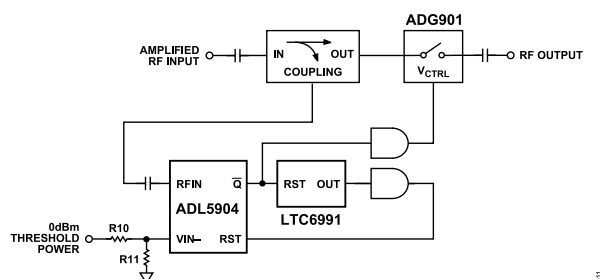

Figure 11. CN0555 Overpower Protection Circuit
The ADL5904 provides a resistor programmable detection threshold, which compares the voltage from an internal envelope detector with a user defined input voltage. When the voltage from the envelope detector exceeds the user defined threshold voltage at the V_{IN-} pin, an internal comparator captures and latches the event to a set/reset (SR) flip-flop. Figure 11 shows the overpower protection circuitry for the CN0555.
As shown in Figure 11, the amplified RF input is sampled by a 3 dB, 90° hybrid coupler. This power is forwarded to the RFIN pin of the ADL5904, which is then sampled by the internal envelope detector. The ADL5904 threshold voltage level on V_{IN-} pin is set by a resistor divider network, which value can be computed using Equation 1.